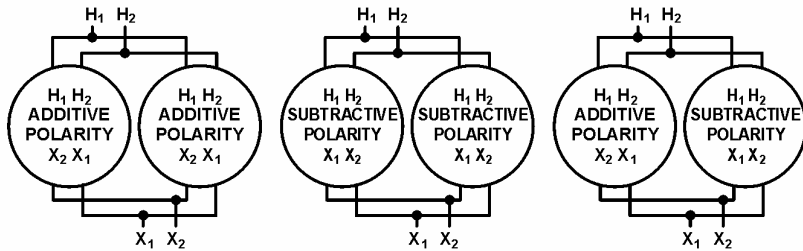

Figure 16 – Single-Phase Paralleling.
- Any combination of positive and negative polarity transformers can be used. However, in all cases, numerical notations **must be followed** on both primary and secondary connections. That is  $H_1$  connected to  $H_1$ ,  $H_2$  connected to  $H_2$ , and  $X_1$  connected to  $X_1$ ,  $X_2$  connected to  $X_2$ ,  $X_3$  connected to  $X_3$ . Note that each subscript number on a transformer must be connected to the same subscript number on the other transformer as shown in figure 16.
With positive and negative polarity transformers, the location of  $X_1$  and  $X_2$  connections on the tanks will be reversed. Care must be exercised to ensure that terminals are connected, as stated above. See figure 16.